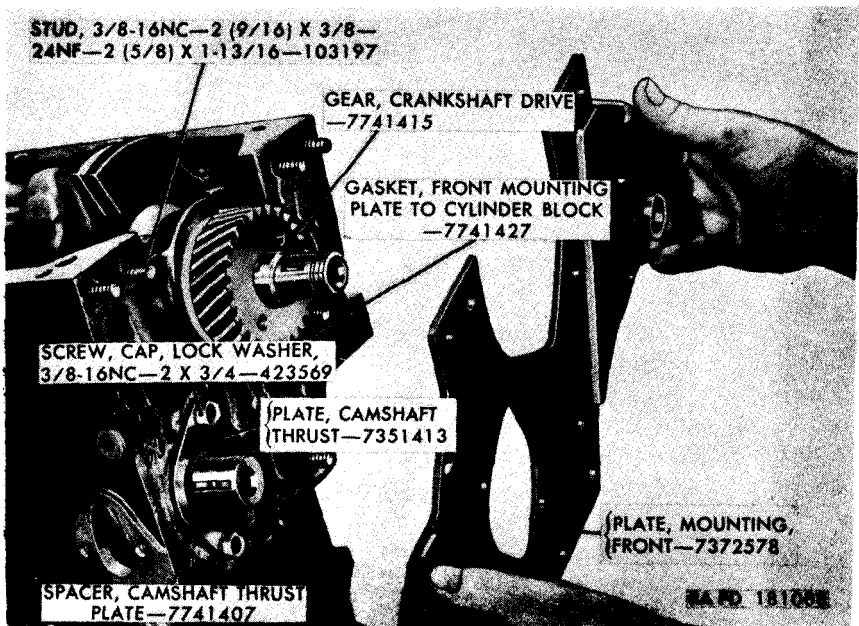

Figure 77. Installing front mounting plate.
a. Coat the threads of the six $\frac{3}{8}$ -16NC-2 ($\frac{9}{16}$) x $\frac{3}{8}$ -24NF-2 ($\frac{5}{8}$) x $1\frac{13}{16}$ studs (fig. 77), used to secure the mounting plate and timing gear cover to the front end of the cylinder block, with plastic type gasket cement. Install the studs in the front end of the cylinder block.